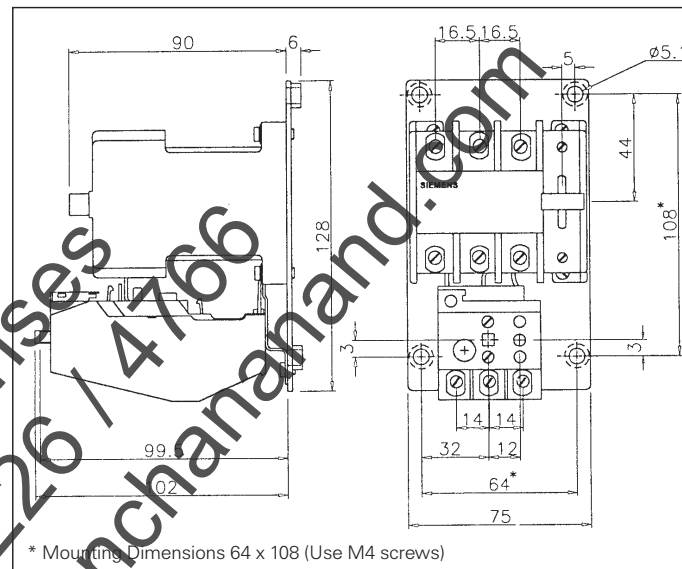
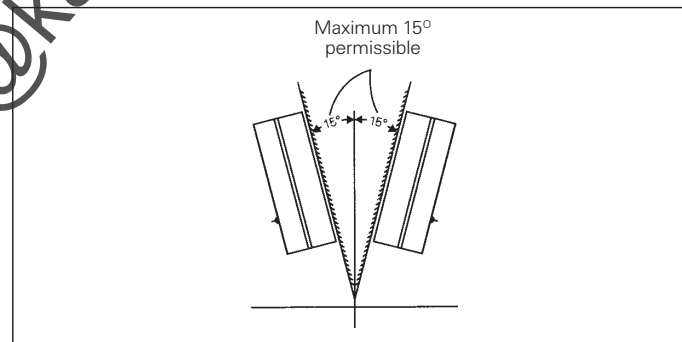

Fig. 1 : Dimensional Details
Fig. 2 : Maximum permissible displacement from vertical plane
- Mount the starter in an enclosure and the enclosure on a vertical rigid surface free from vibration. The drilling template is enclosed for convenience. Refer Fig.1 for mounting dimensions and Fig.2 for permissible displacement from vertical plane.